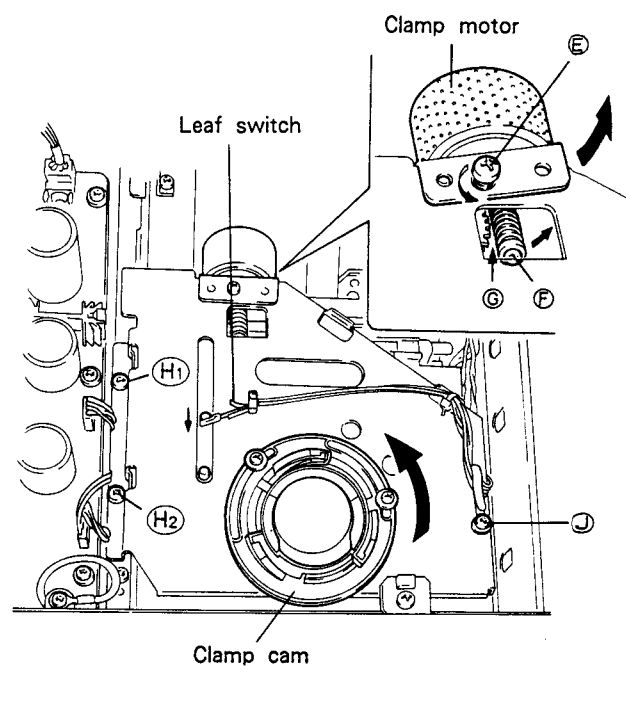

Fig. 2-2.
1. Loosen the screw (E) fixing the clamp motor.
2. Taking care not to drop the iron ball of the tip of the gear section of the clamp motor as shown in Fig. 2-2, keep the engaging section (G) of gear apart from the unit by tilting the clamp motor in the direction of arrow.
4. Mount the clamp motor again. (Drive the screw (E).)
2. Remove by turning over the clamp mechanism assembly. (Screws H_1 , H_2 and J , Refer to Fig. 2-2.)